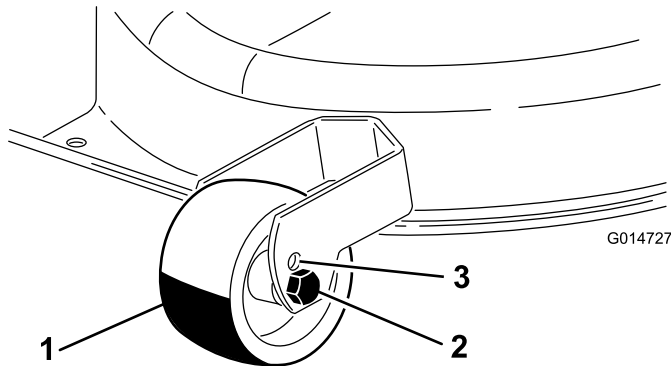

Figure 9
- If you use the height-of-cut setting 1 or 2, move the gauge wheels to the upper (highest) hole in the wheel brackets (Figure 9).
- If you use the height-of-cut setting 3 through 7, install the gauge wheels in the bottom (lowest) hole in the wheel bracket (Figure 9).